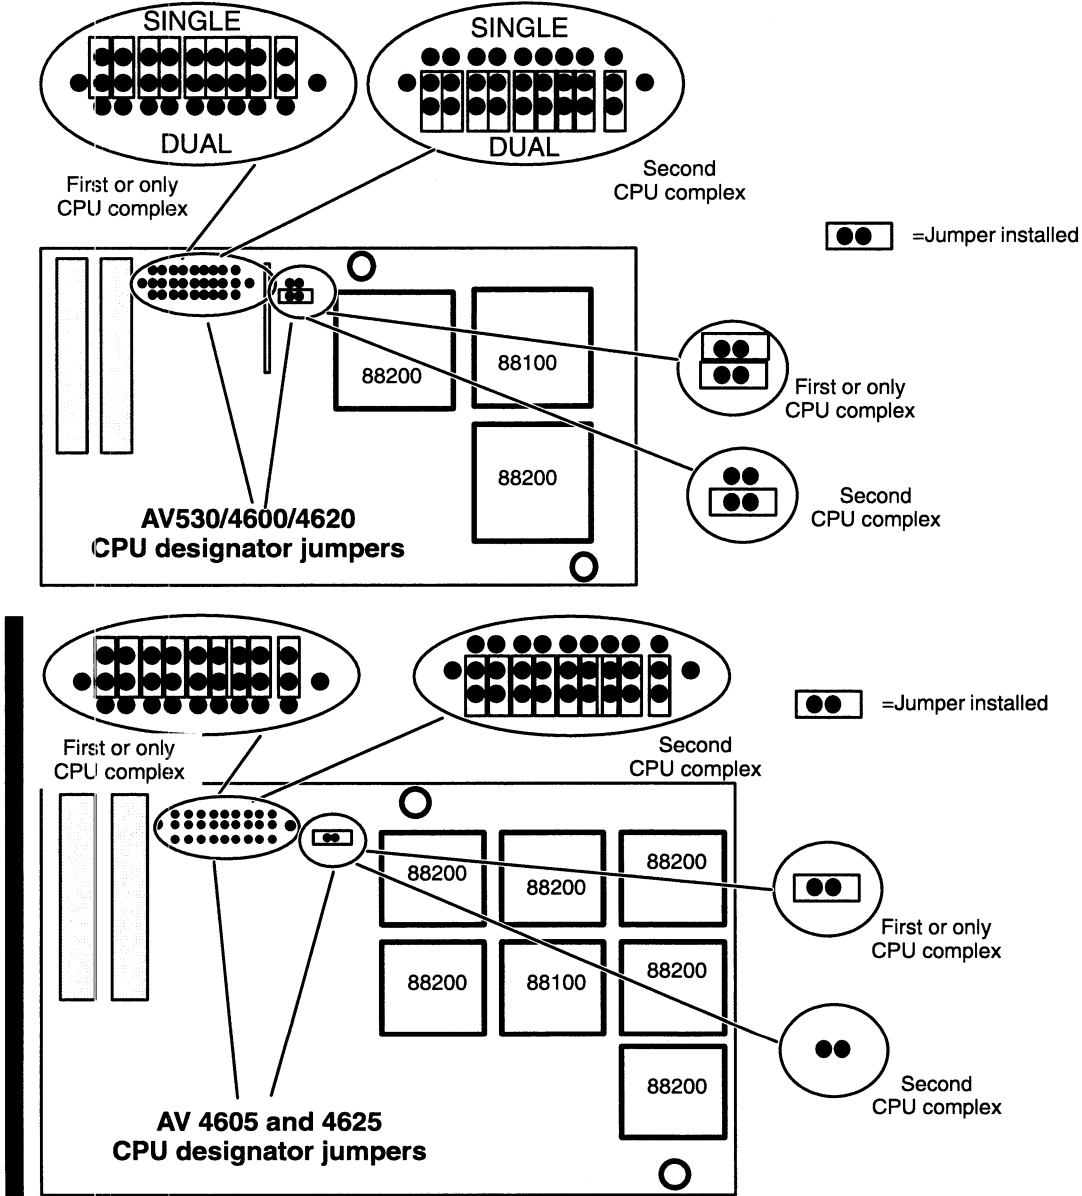

Figure 9-7 AViiON 530 and 4600 Series CPU Complex Configuration
- Verify, and if necessary reset, the jumpers in the new CPU complex board as indicated in Figure 9-7. Note that the “first” complex must attach to the system board; a complex jumpered as the “second” board attaches to the first.